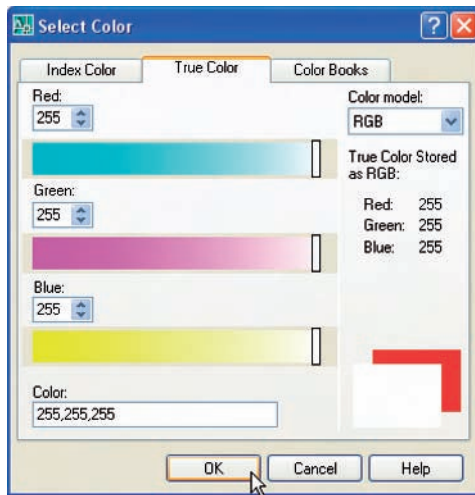

Fig. 16.11 The **Select Color** dialog
4. In the **Background** dialog *click* in the **Color** field. The **Select Color** dialog appears (Fig. 16.11).